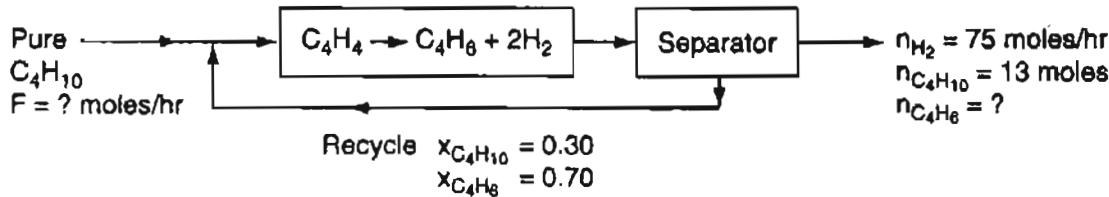

Figure SAT12.3P1
- A catalytic dehydrogenation process shown in Figure SAT12.3P1, produces 1, 3 butadiene (C_4H_6) from pure normal butane (C_4H_{10}). The product stream contains 75 mol/hr of H_2 and 13 mol/hr of C_4H_{10} as well as C_4H_6 . The recycle stream is 30% (mol) C_4H_{10} and 70% (mol) C_4H_6 , and the flow is 24 mol/hr.